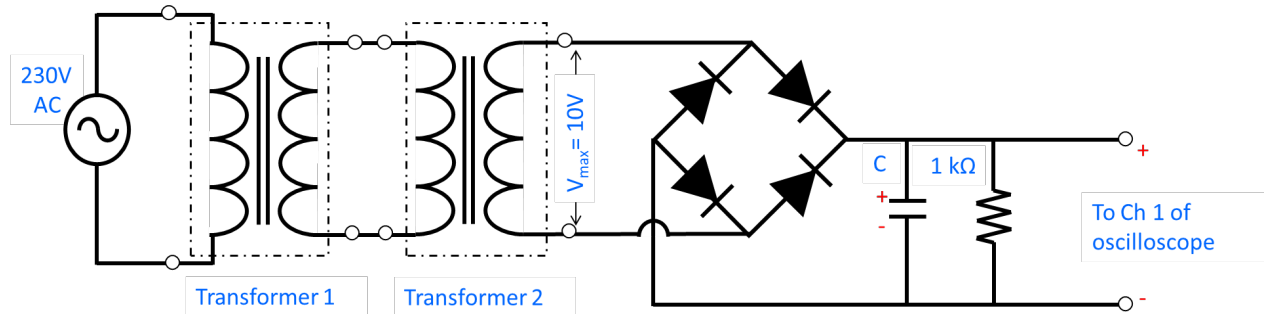

Figure 8: Circuit Diagram for Activity 2 **with capacitor**
- Next, construct the circuit shown in Figure 8 with the smallest capacitor ($10\ \mu\text{F}$). **Check that the polarity of the capacitor is correct.**